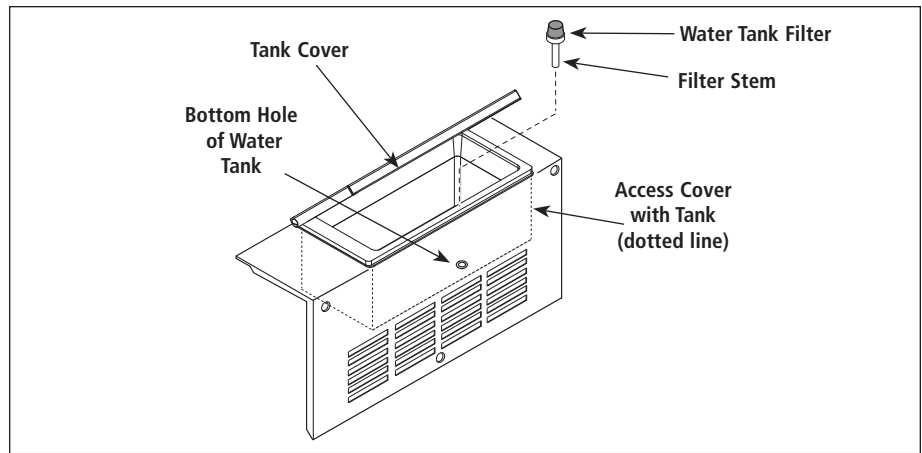

Figure 7. Water Tank Filter
2. Open the slide door (Figure 7).
5. Reinstall the filter stem into the bottom hole of the tank (Figure 7).